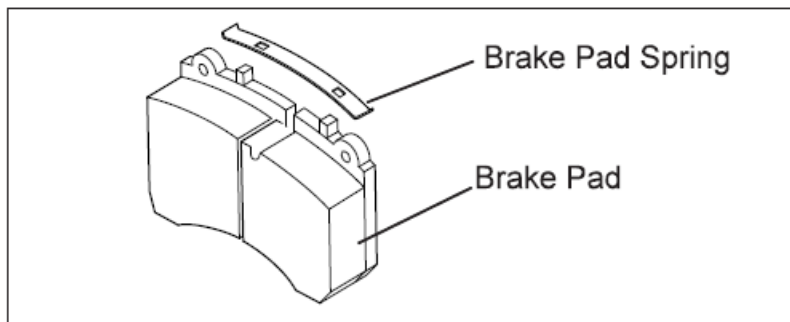

Figure 15: Pad Retaining Spring Installation
21. Install the brake pad retaining springs onto the brake pads by inserting one end of the spring onto the lug at the top of the brake pad. Carefully apply enough force to permit the second lug to fully engage, taking care to keep fingers, etc. away from the spring as it seats. **See Figure 15.**